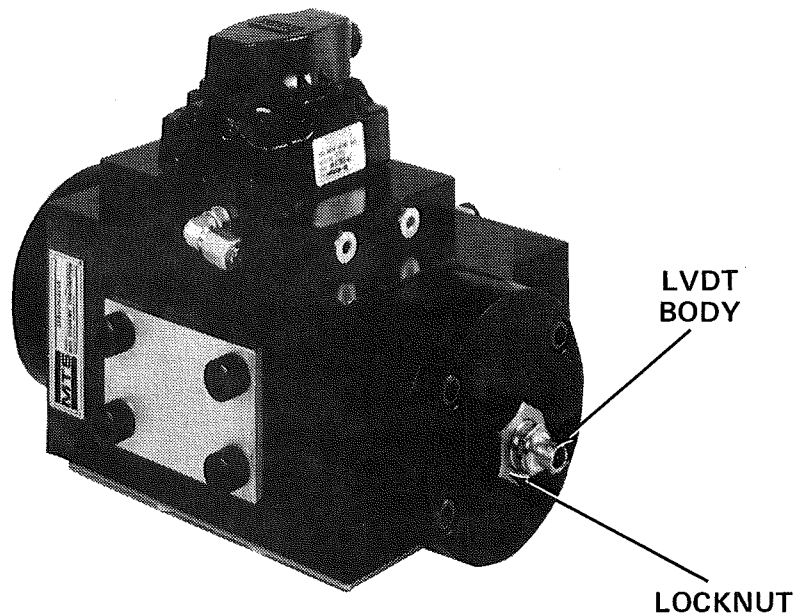

Figure 3-3. Typical Servovalve
4. Loosen the locknut on the servovalve LVDT. Figure 3-3 shows the location of the locknut on a typical servovalve.